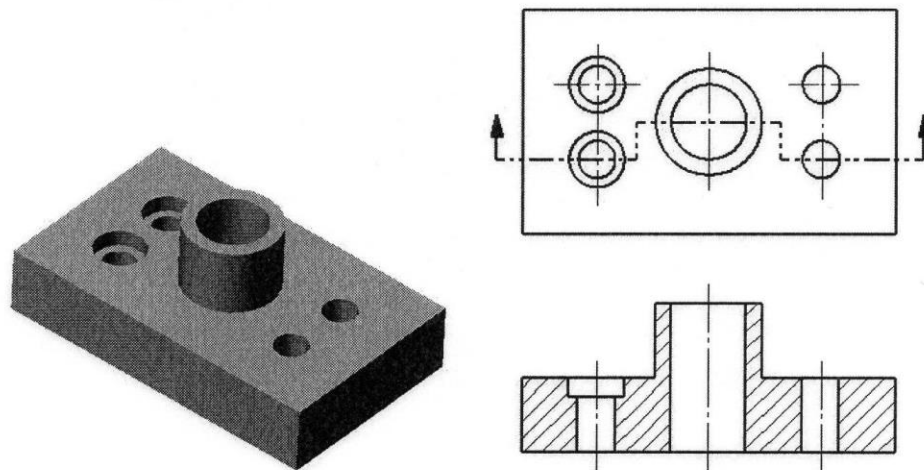

Figure 8. Offset Section.
6. **Offset Sections** (Figure 8).